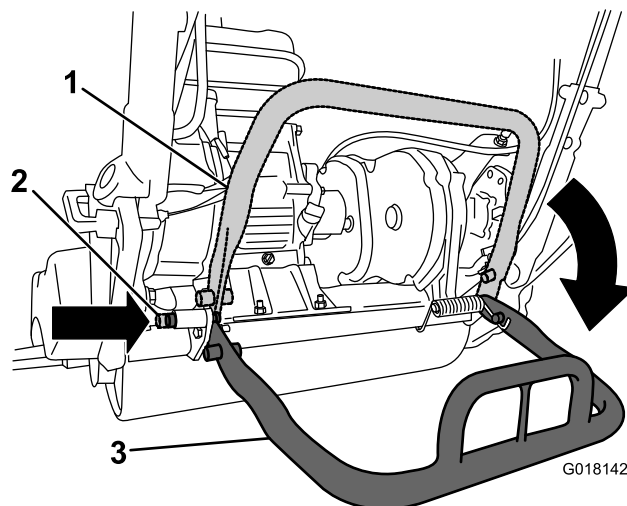

Figure 5
2. Lower the kickstand and push in the locking pin to lock the kickstand in the service position (Figure 5). Allow the machine to rest on the locking pin.